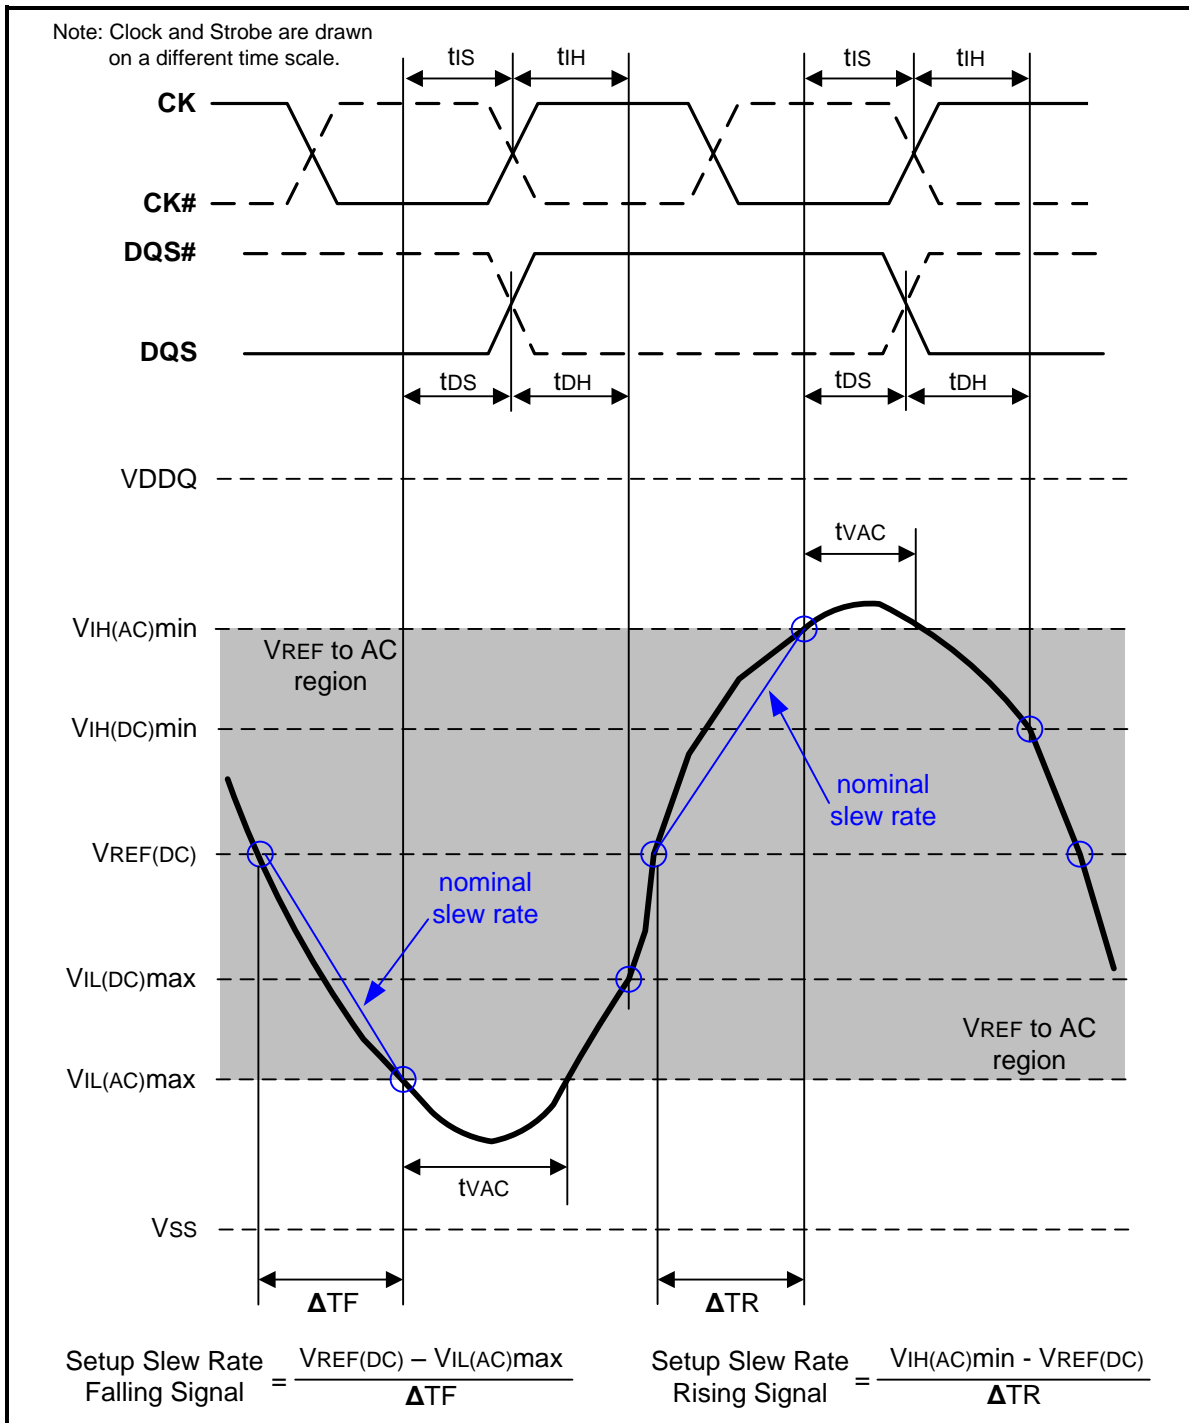
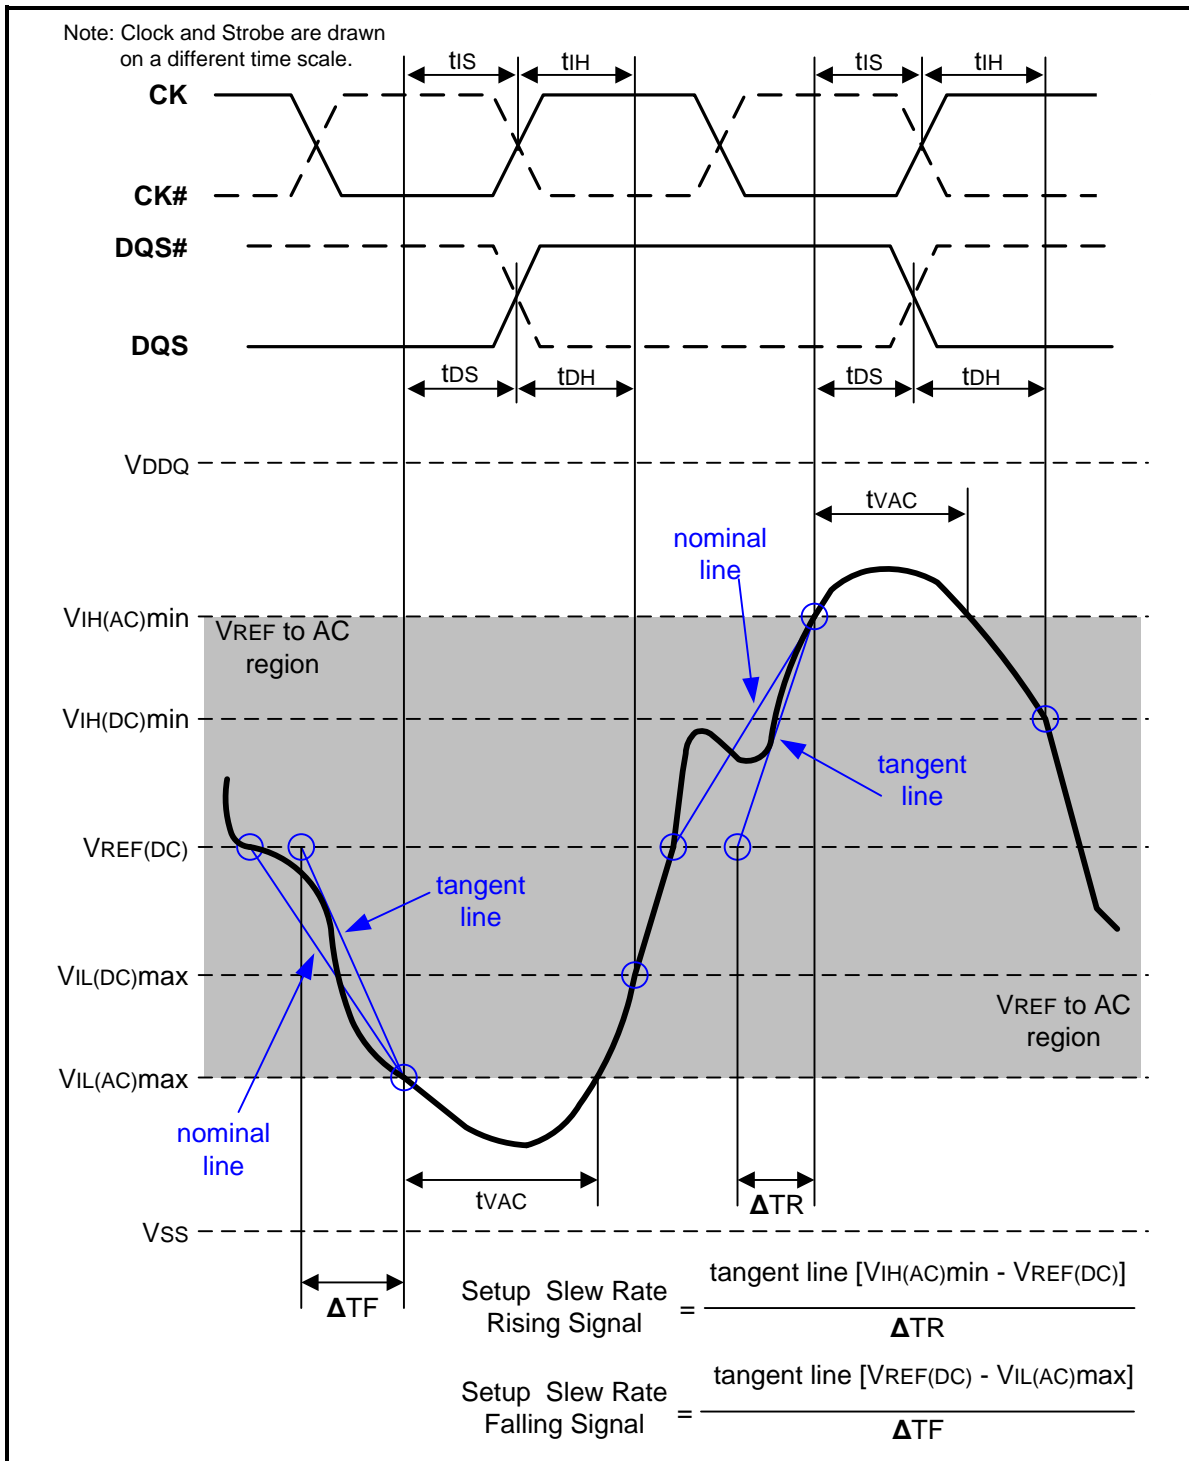

Figure 107 – Illustration of nominal slew rate and tVAC for setup time tDS (for DQ with respect to strobe) and tIS (for ADD/CMD with respect to clock)
Figure 109 – Illustration of tangent line for setup time t_{DS} (for DQ with respect to strobe) and t_{IS} (for ADD/CMD with respect to clock)
Setup (t_{IS}) nominal slew rate for a rising signal is defined as the slew rate between the last crossing of $V_{REF(DC)}$ and the first crossing of $V_{IH(AC)min}$. Setup (t_{IS}) nominal slew rate for a falling signal is defined as the slew rate between the last crossing of $V_{REF(DC)}$ and the first crossing of $V_{IL(AC)max}$. If the actual signal is always earlier than the nominal slew rate line between shaded 'VREF(DC) to AC region', use nominal slew rate for derating value (see Figure 107). If the actual signal is later than the nominal slew rate line anywhere between shaded 'VREF(DC) to AC region', the slew rate of a tangent line to the actual signal from the AC level to $V_{REF(DC)}$ level is used for derating value (see Figure 109).
Setup (tDS) nominal slew rate for a rising signal is defined as the slew rate between the last crossing of VREF(DC) and the first crossing of VIH(AC)min. Setup (tDS) nominal slew rate for a falling signal is defined as the slew rate between the last crossing of VREF(DC) and the first crossing of VIL(AC)max (see Figure 107). If the actual signal is always earlier than the nominal slew rate line between shaded 'VREF(DC) to AC region', use nominal slew rate for derating value. If the actual signal is later than the nominal slew rate line anywhere between shaded 'VREF(DC) to AC region', the slew rate of a tangent line to the actual signal from the AC level to VREF(DC) level is used for derating value (see Figure 109).